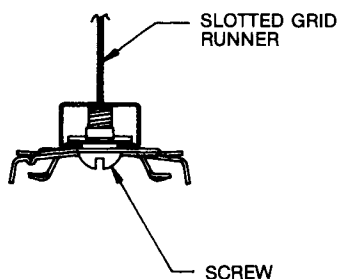

FIG. 4
5. Tighten SCREW to the point that the TRACK MOUNTING CLIP is tight against the runner but can still be rotated. See Fig. 4.